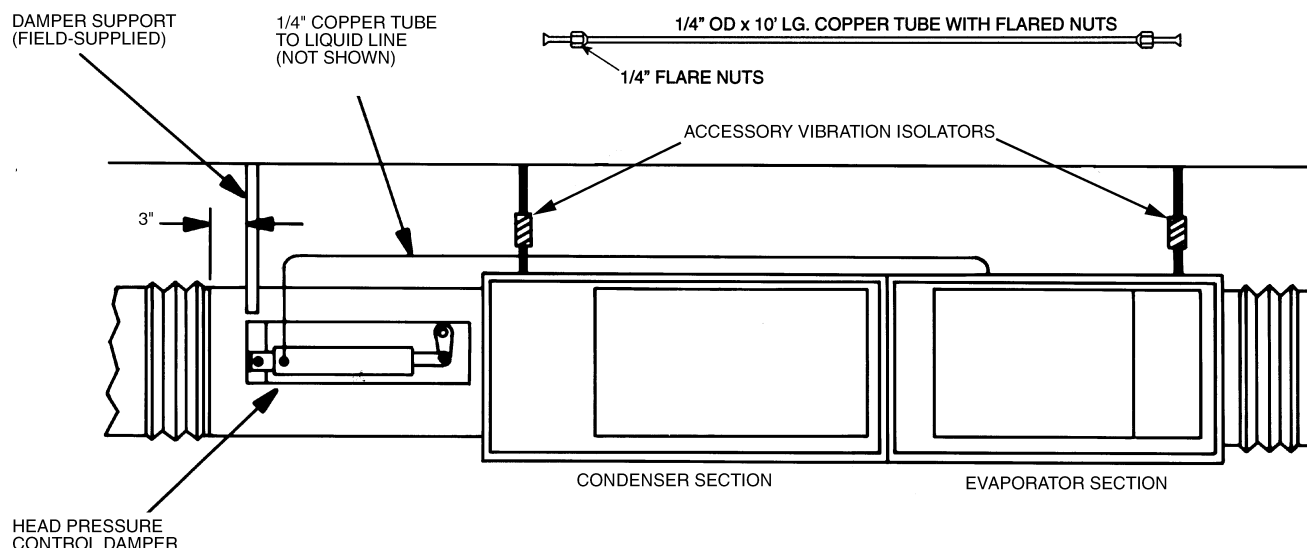

Fig. 2 — Head Pressure Control Damper Installation — Factory Configuration
- Install 1/4-in. copper tube with flare nuts. Be sure to connect copper tube to damper side first. See Fig. 2.
- Attach damper support to control damper. See Fig. 2 and 3.